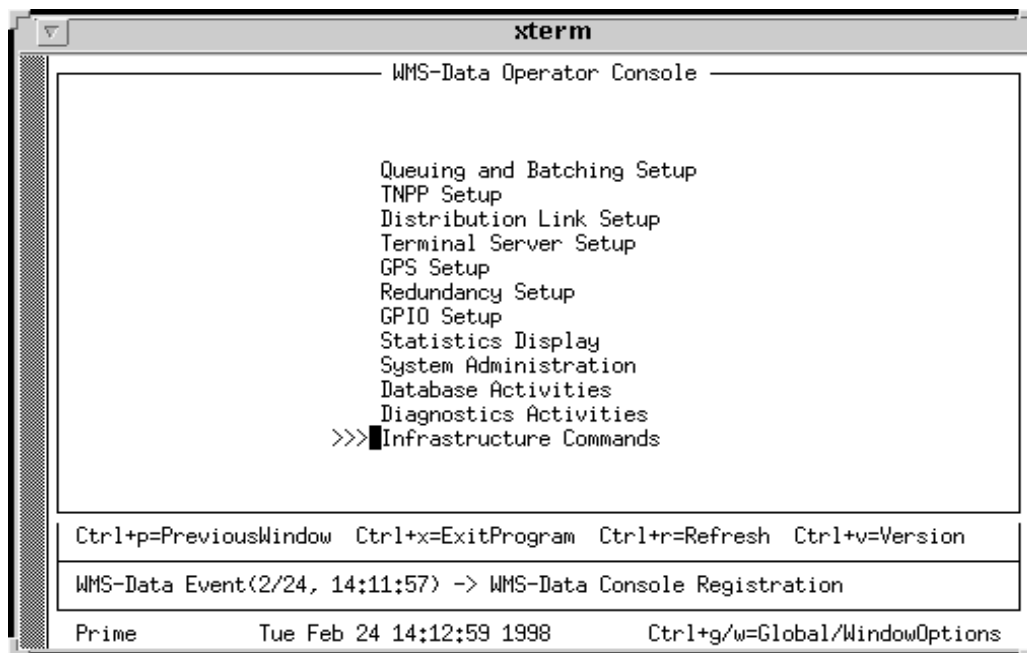

Figure 2-2: Infrastructure Commands Menu—Administrator Level
1. Display the WMS-Data Operator Console Menu (see Figure 2-2).